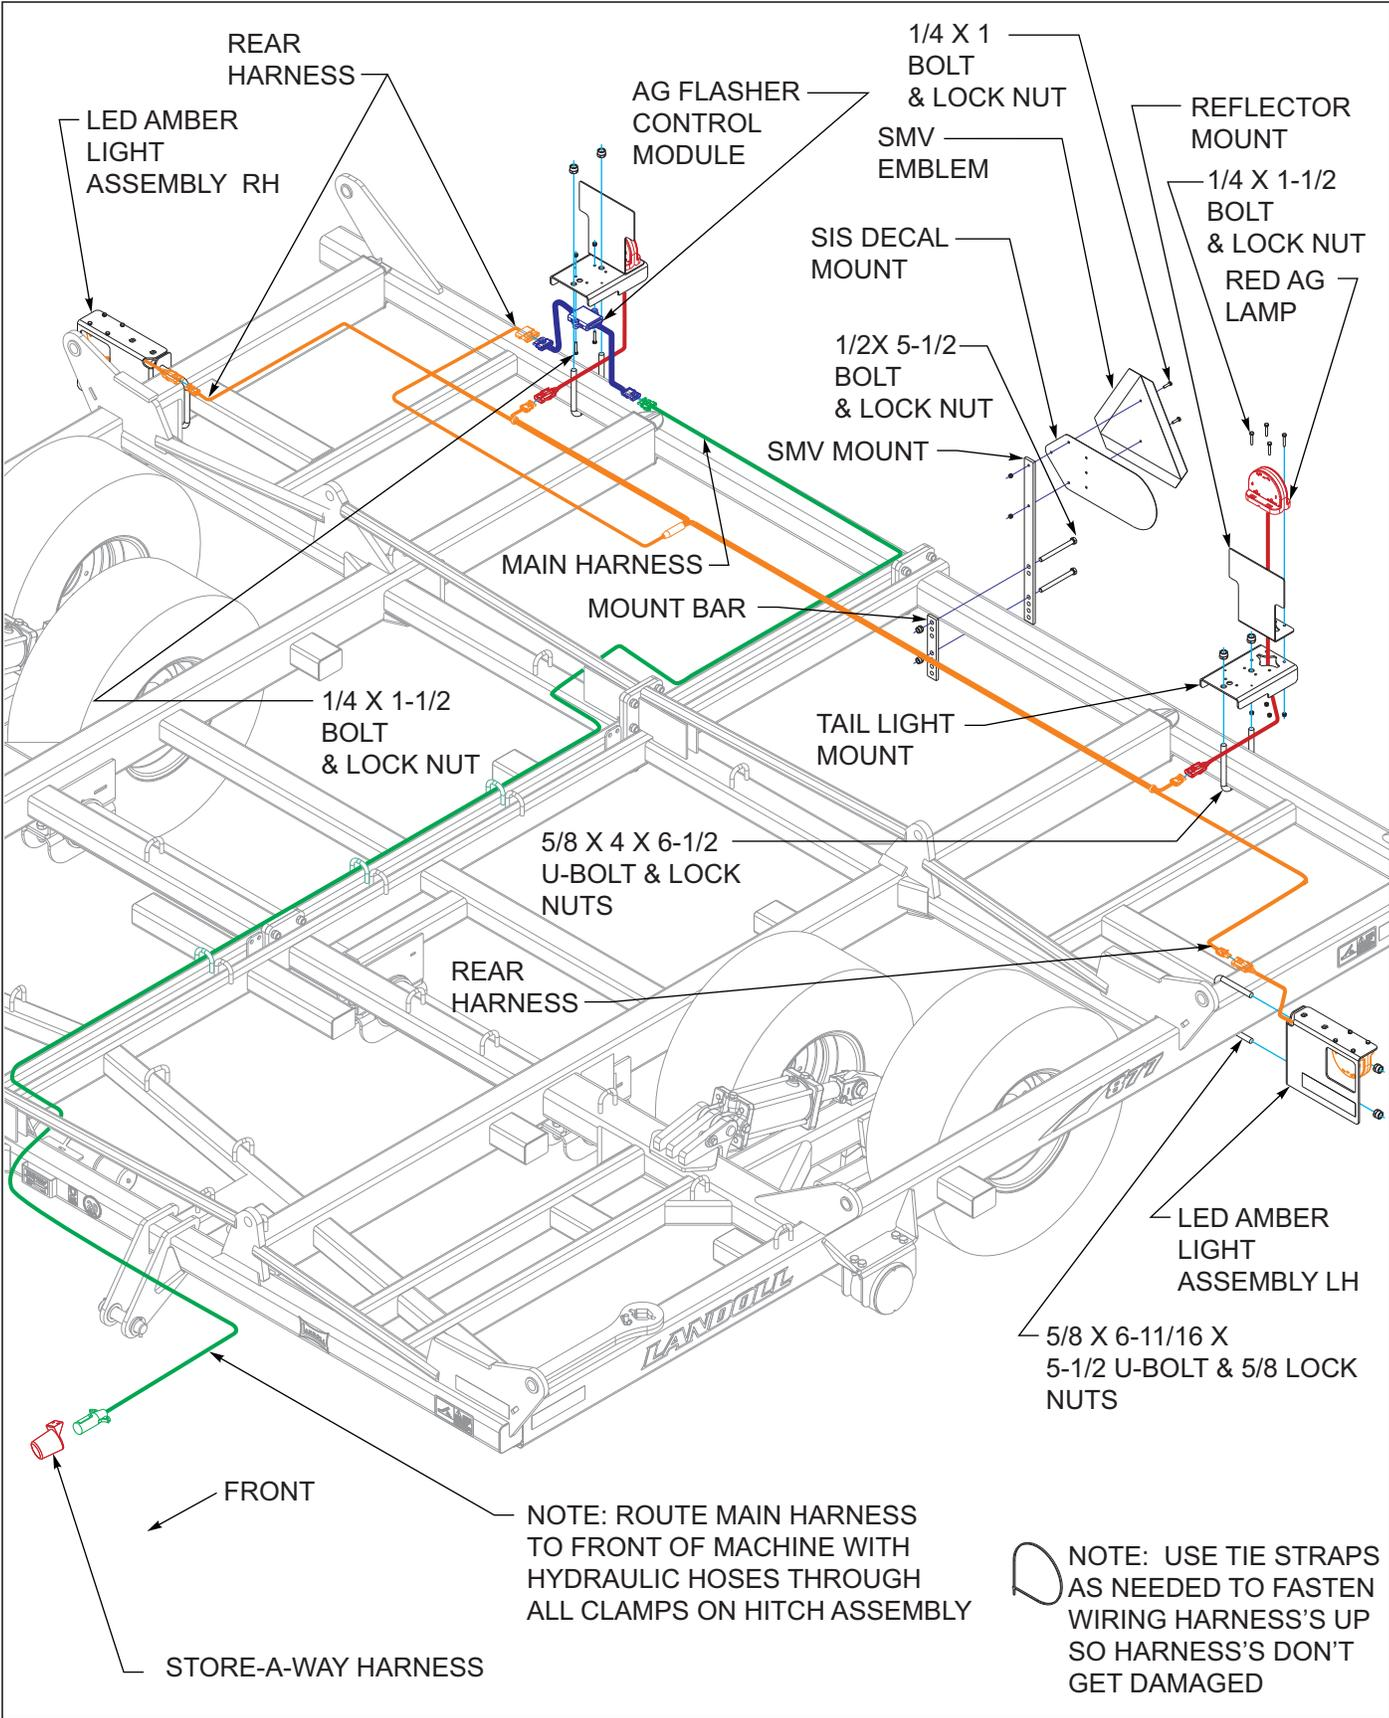

Figure 3-31: LED Light Installation
1. Attach LH and RH light bracket assemblies to center frame using 5/8 x 6-11/16 x 5-1/2 u-bolt and 5/8 lock nuts **See Figures 3-31**.